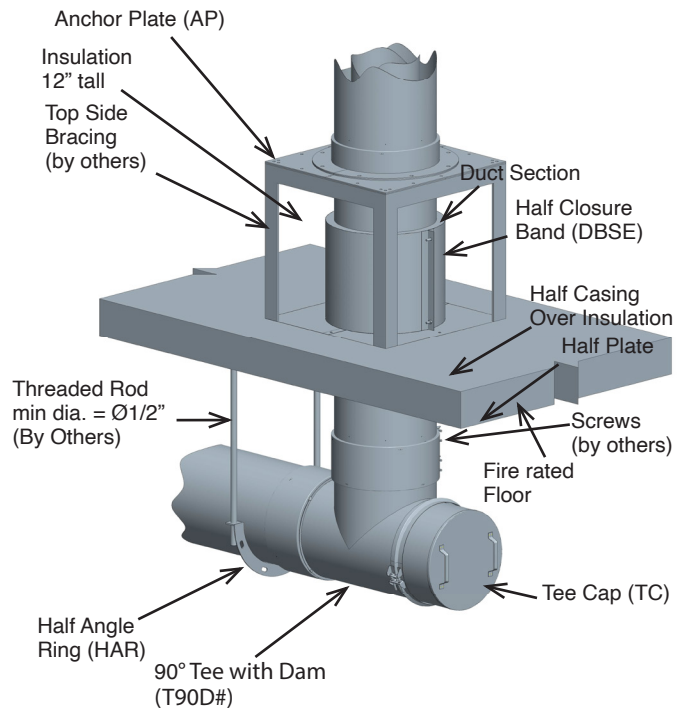
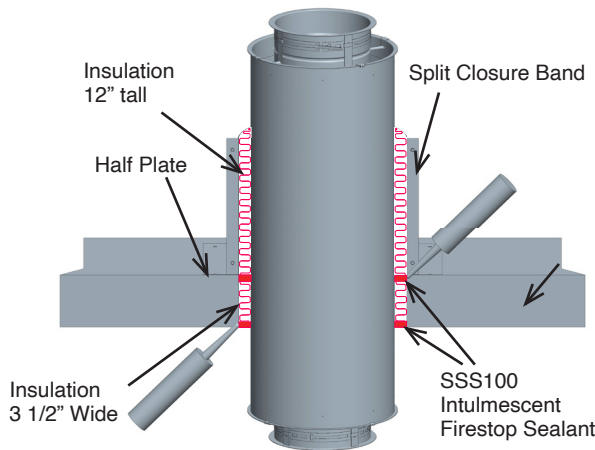

Figure 107: Supports for Duct passing through a fire-rated Floor-Ceiling (CIX3Z only)
Figure 109: Through Penetration Firestop fire-rated Floor Penetration (CIX3Z only)
Supports for ducts that penetrate a fire-resistant floor are to be positioned on the top side of the floor. Include supports as per the height limits in Table 5 and use either an Anchor Plate (AP) or an Anchor Plate with Length (APL) installed above structural framing members as shown in Figure 107. Where a transition from horizontal to vertical occurs beneath a floor / ceiling assembly, support the horizontal portion beneath the floor using Half Angle Rings (HAR) with a minimum 1/2" dia. threaded rod. Install one HAR on the section adjacent to the Tee and include additional Half Angle Rings (or other, appropriate supports) for the horizontal portion of the system in accordance with Table 7.
NOTE:- For Floor Penetration, use one TPFK. See Figure 109 and Figure 107.
4. Apply a minimum 1/2" depth of S-TPFS (SSS100 from SpecSeal), flush with both surfaces of the wall. See Figure 109.